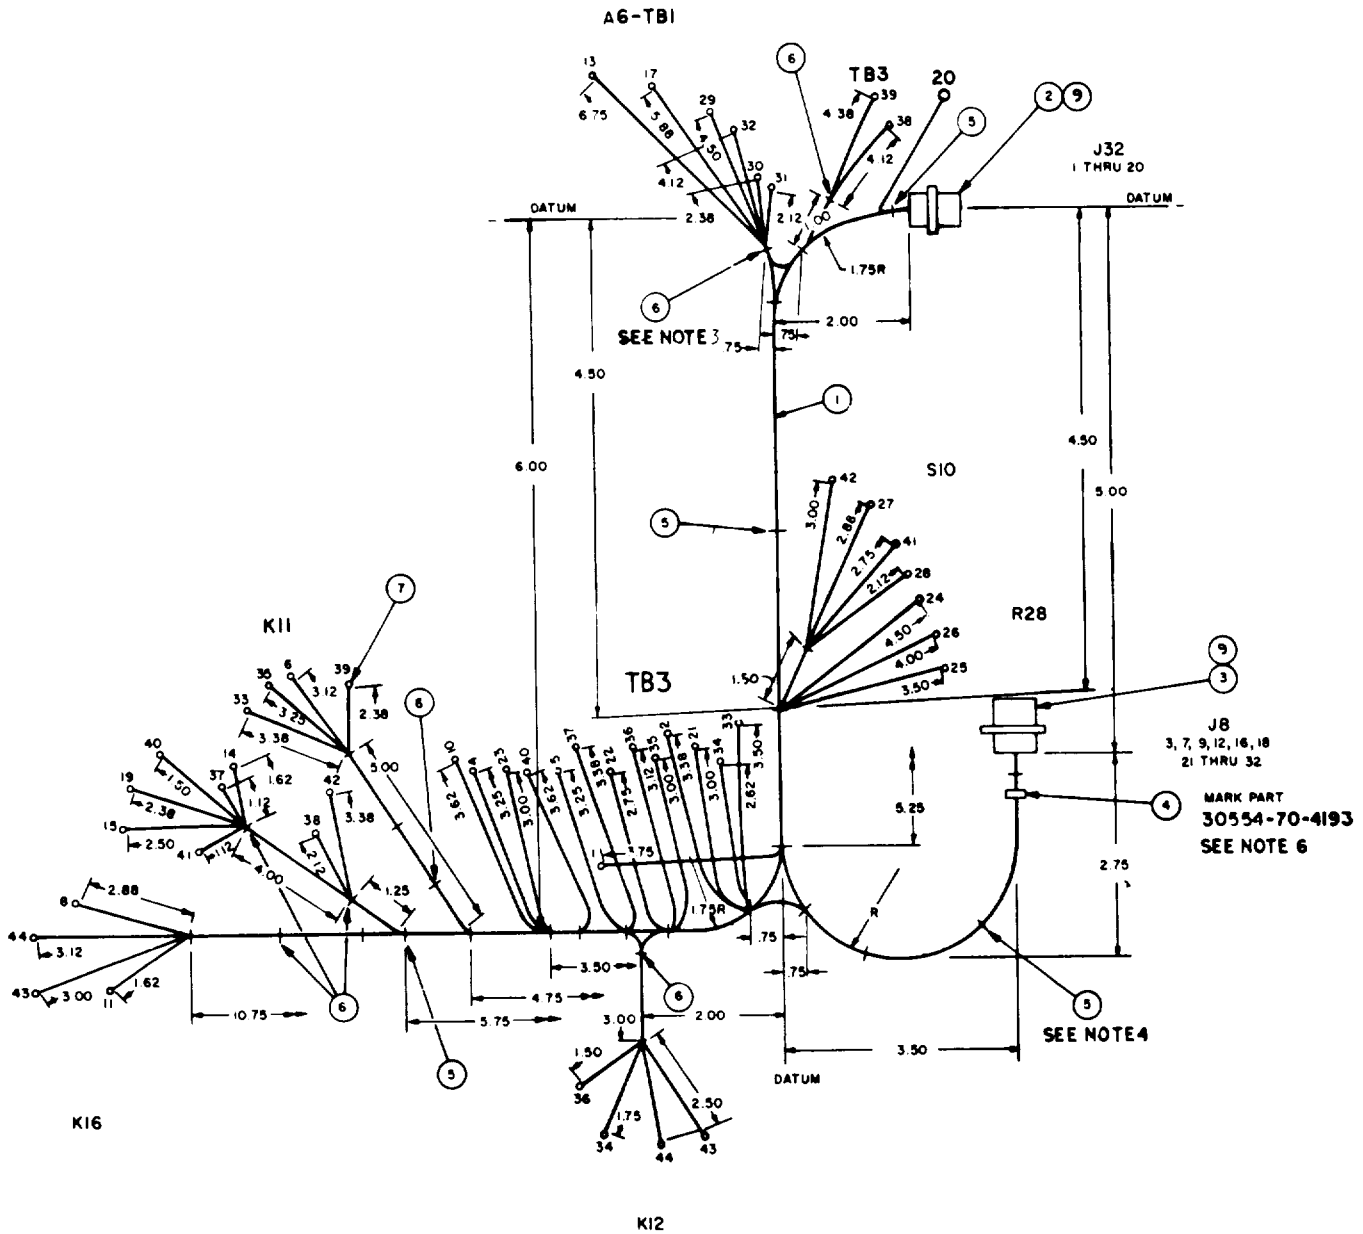

Figure 6-53. Precise relay box (A25), wire harness
- a. Repair or fabricate precise relay box wire harness in accordance with figure 6-53.